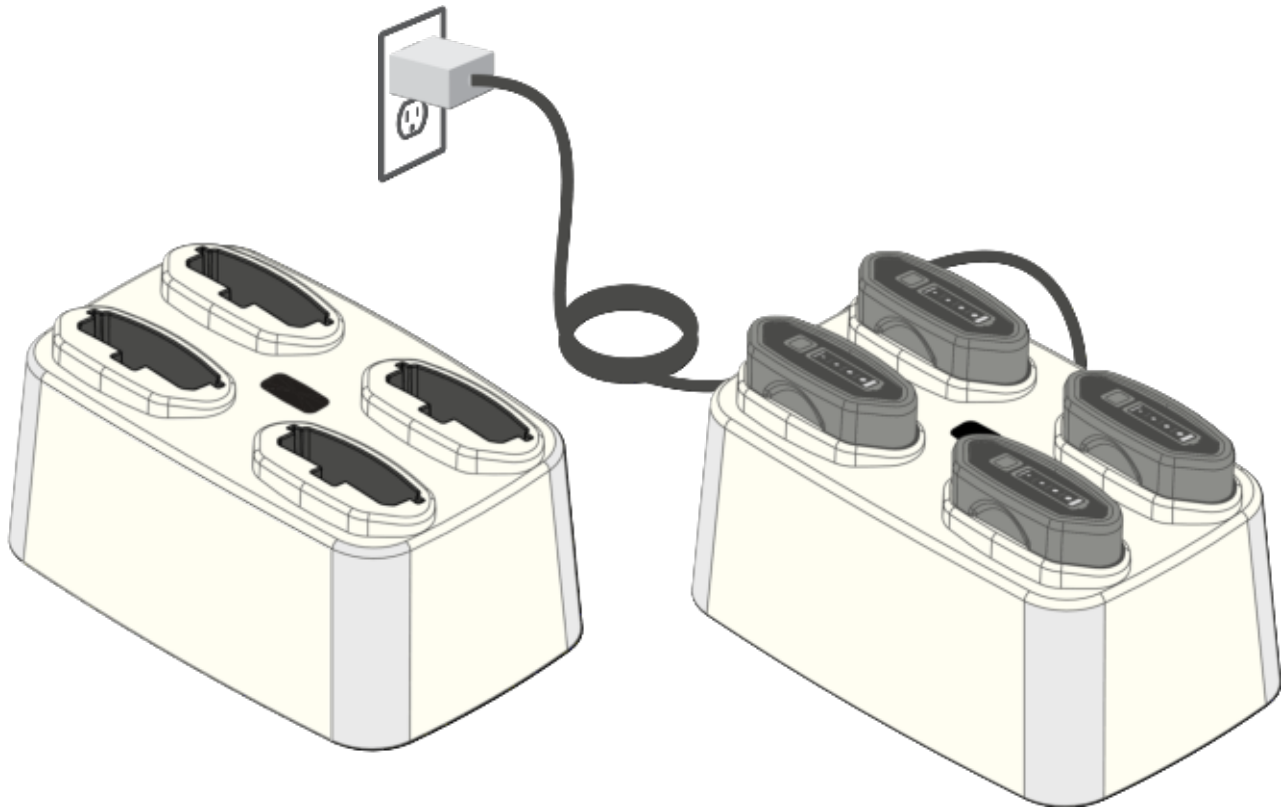

Figure 12 Charging B27 Batteries in a Quad-Bay Charger
5.10.2 The batteries can also be charged using the Quad-Bay battery charger (CRA-A274). Connect the Quad-Bay charger to the power supply provided for the charger and plug the power supply to an AC power source. Insert batteries into the charger (Figure 12). The batteries will start charging as the Power Gauge LEDs start flashing 4 seconds on and 1 second off. The LEDs will stay solid on when a battery is fully charged. The battery will be fully charged in approximately 4 hrs when using the quad-bay battery charger.